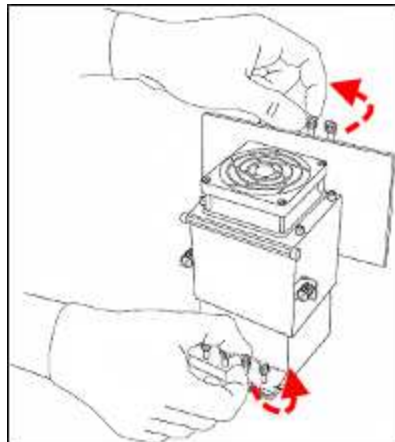

Figure 6-71 Releasing the locking screws
19. Tighten the upper and lower screws that secure the print head in the print block (see Figure 6-71 on page 6-53).